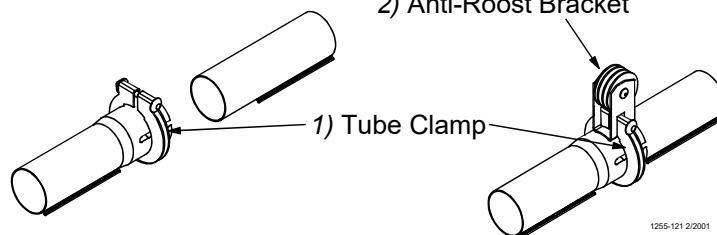

Figure 40. Tube Clamp and Tube Clamp with Anti-Roost Bracket
4. Place a Tube Clamp Assembly or Clamp/Anti-Roost Bracket at each joint. Figure 40. shows the standard Clamp and Clamp/Anti-Roost Bracket.